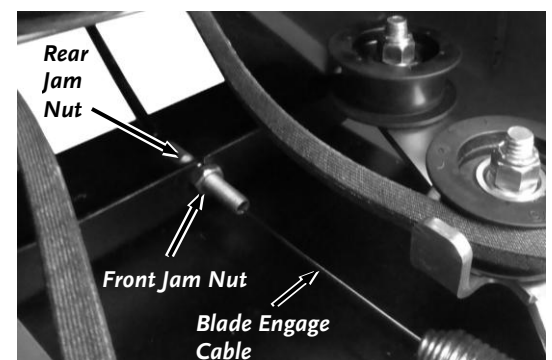

Figure 8
- Adjusting the Blade Engage Cable: **To Loosen the Cable** – loosen the rear Jam Nut slightly and tighten the front Jam Nut using a 1/2" Wrench (**Figure 8**). **To Tighten the Cable** – loosen the front Jam Nut slightly and tighten the rear Jam Nut using a 1/2" Wrench (**Figure 8**).